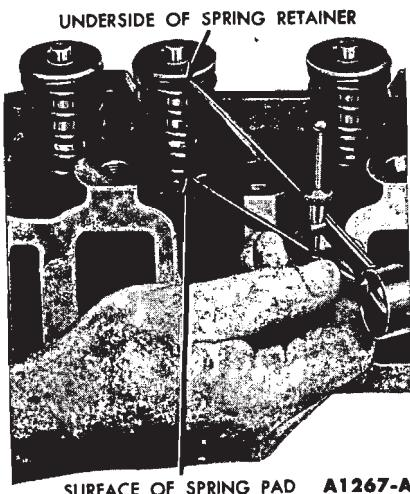

FIG. 17—Valve Spring Assembled Height
4. Measure the assembled height of the valve spring from the surface of the cylinder head spring pad to the underside of the spring retainer with dividers (Fig. 17). Check the dividers